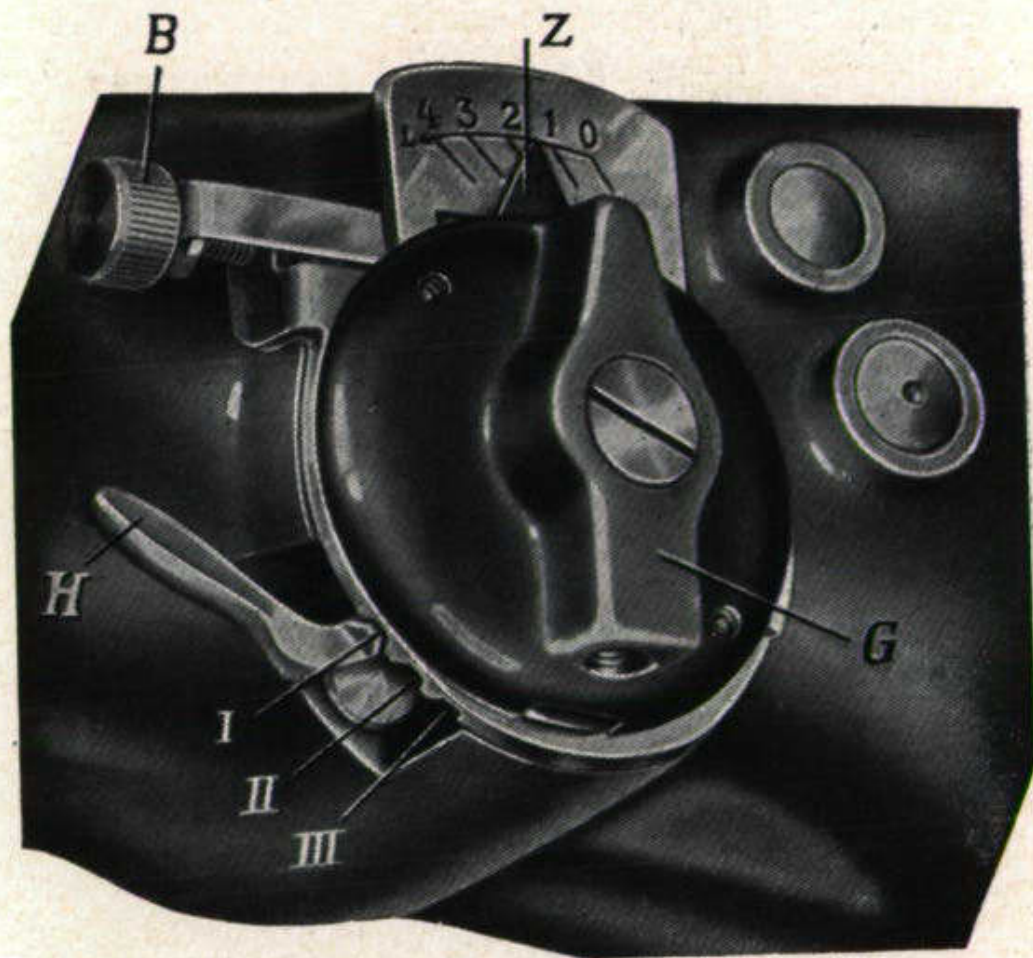

Fig. 12
If the nose of the Dial-A-Stitch lever (G), (Fig. 12), is on point zero of the scale, the machine is performing the straight stitch. If you turn the lever, (G), to the left, the machine is doing the zigzag stitch. The width of the zigzag stitch is increased as the lever, (G), is turned to the left, bringing the width of the zigzag stitch up to a maximum of $11/64$ ".
If lever H (Fig. 12) is pressed against the body of the machine, and then shifted down into position II, the machine will sew to the right of the stitch made in the normal position. In position III, it will sew still farther to the right, continuing the same kind of stitch for which the
With Dial-A-Stitch lever H in position I, (Fig. 12), adjust stitch regulator between zero and one. Adjust the fineness of the zigzag stitch with screw B, to the left of